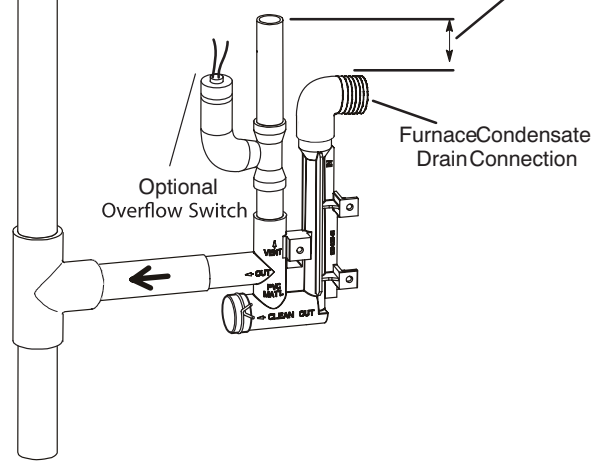

FIGURE 52
- 5 - FIGURE 51 and FIGURE 53 shows the furnace and evaporator oil using a separate drain. If necessary the condensate line from the furnace and evaporator coil can drain together. See FIGURE 52, FIGURE 54 and FIGURE 55. *Upflow furnace (FIGURE 54)* - In upflow furnace applications the field provided vent must be a minimum 1" to a maximum 2" length above the condensate drain outlet connection. Any length above 2" may result in a flooded heat exchanger if the combined primary drain line were to become restricted. *Horizontal furnace (FIGURE 55)* - In horizontal furnace applications the field provided vent must be a minimum 4" to a maximum 5" length above the condensate drain outlet connection. Any length above 5" may result in a flooded heat exchanger if the combined primary drain line were to become restricted.